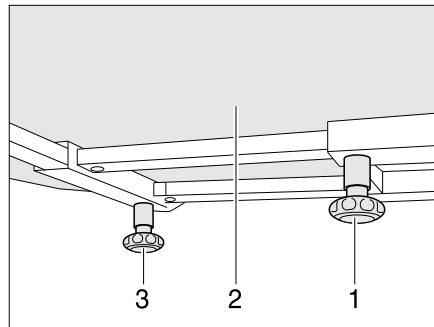

Fig. 102 Fixed table
- Loosen knurled screw (Fig. 102,1).
- Move table-top (Fig. 102,2) to the desired position.
- Loosen knurled screw (Fig. 102,3).